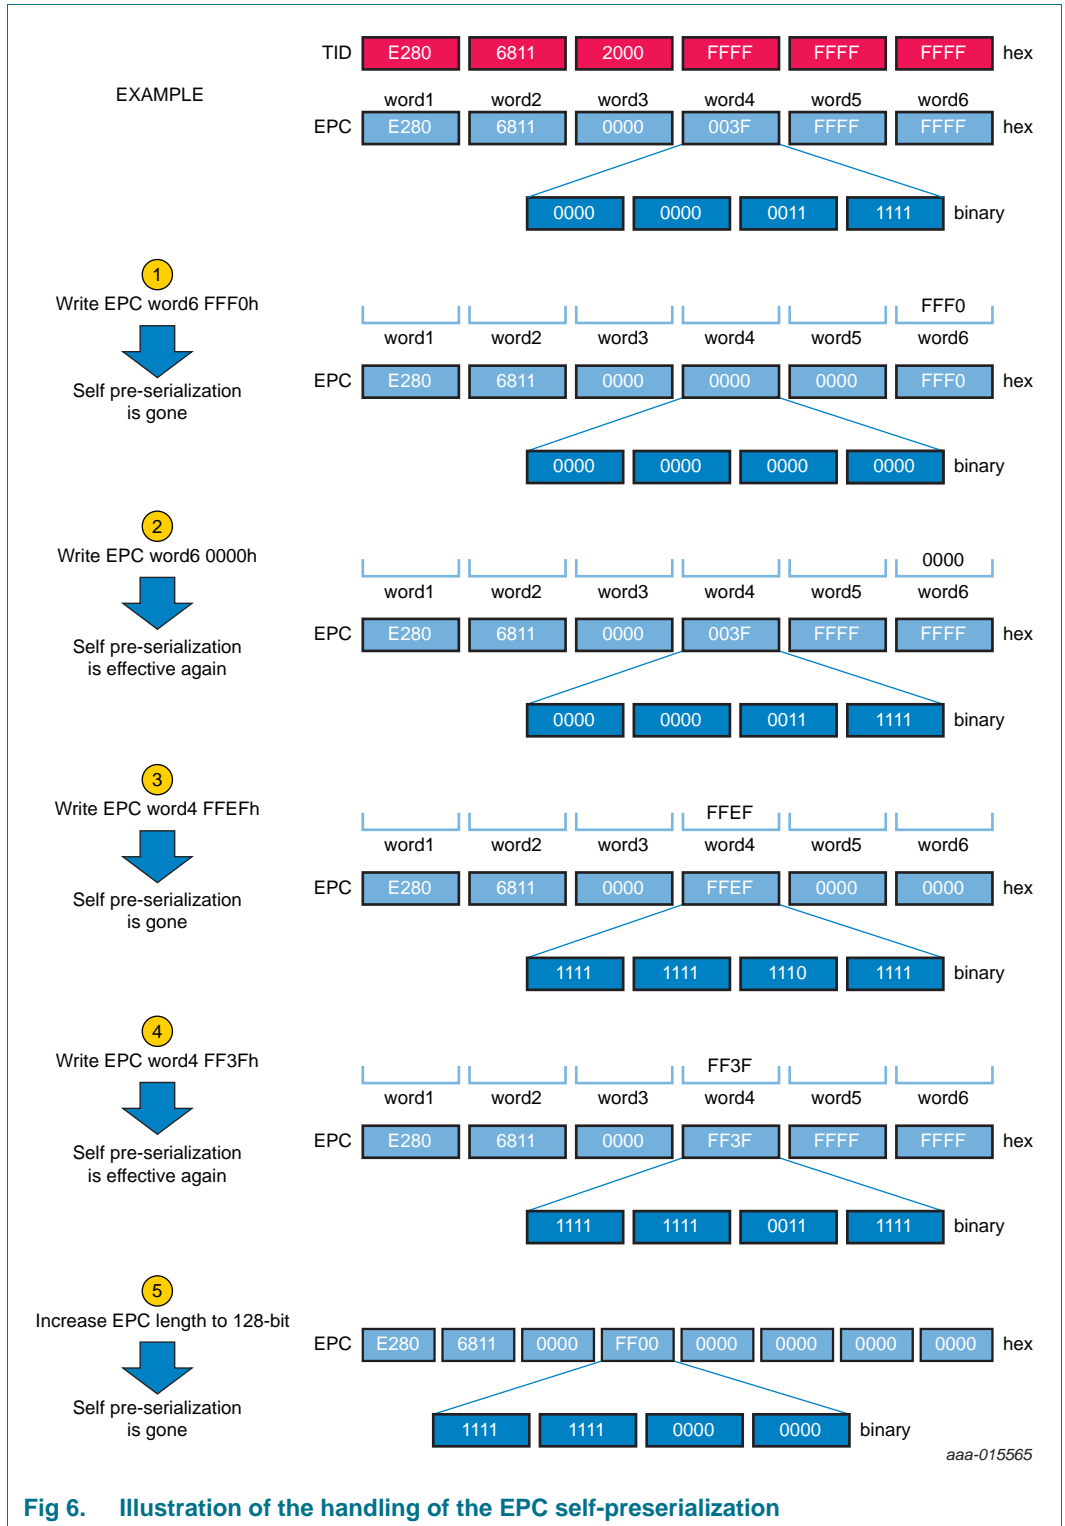

Fig 6. Illustration of the handling of the EPC self-serialization
- Erase sixth and fifth word of the EPC to “00 00h” and keep the content of the lower 6 bits of the fourth word of the EPC at its serialized content (see Figure 6).